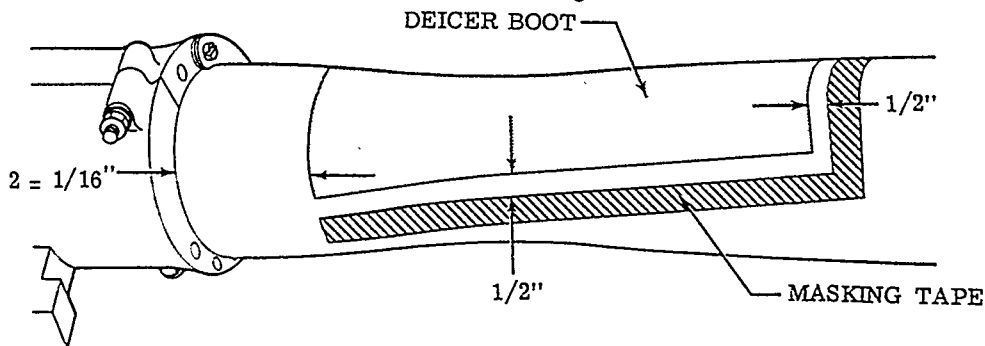

Figure 11-9. Deicer Boot Installation
- b. Mask off an area approximately 1/2 inch from the end and each side of the boot. (See Figure 11-9.)